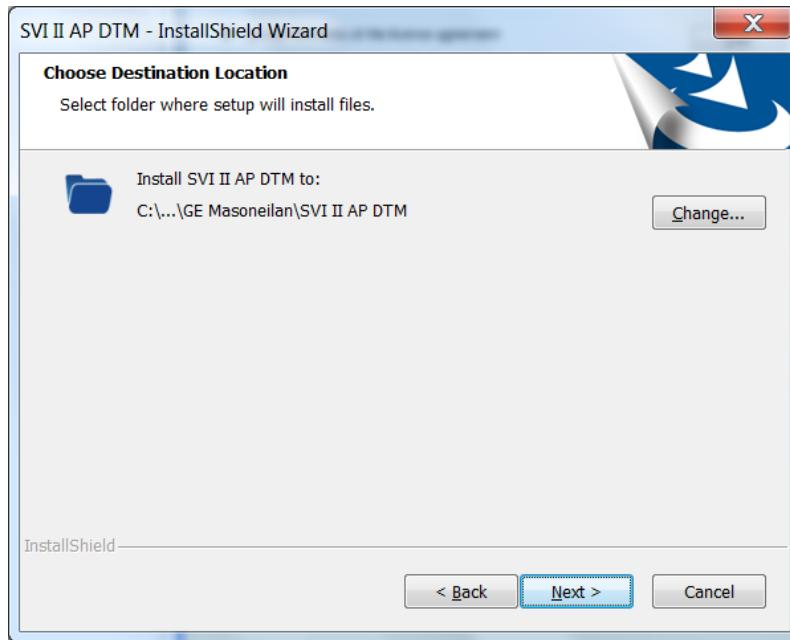

Figure 18 SVI II AP Advanced DTM Choose Destination Folder Screen
3. Click **I accept the license....., Next** and Figure 18 appears.